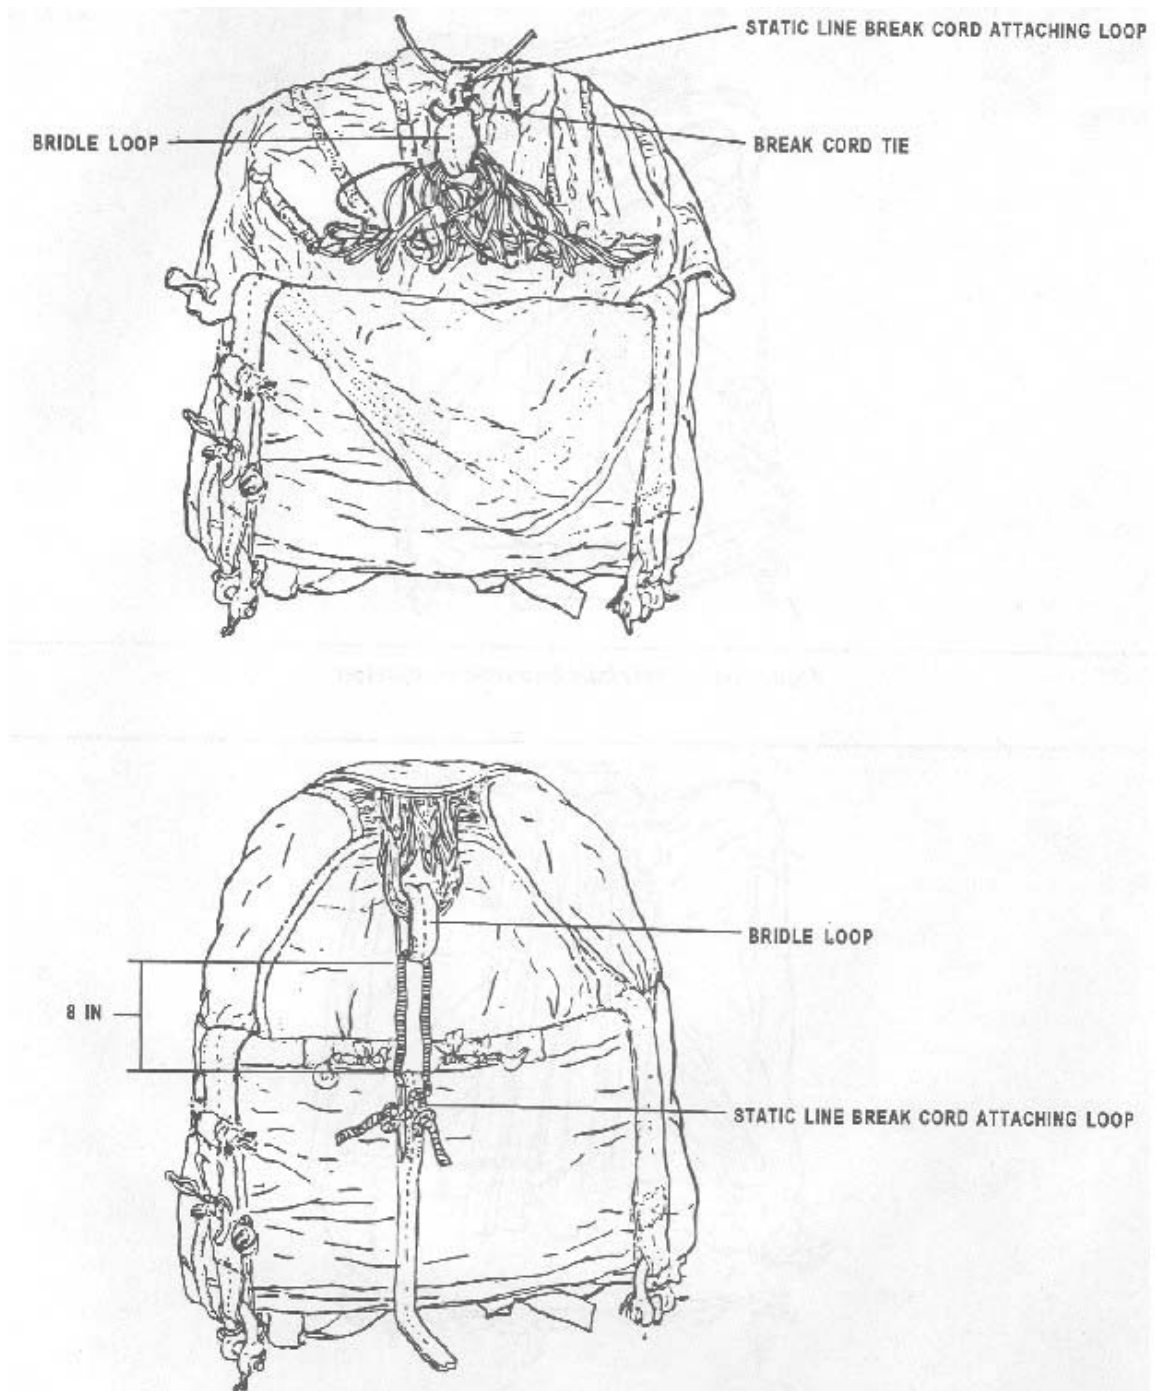

Figure 3-13
5. Attach a nonbreakaway static line and the drogue. (See Figure 3-13)
- c. Attach the static line break cord attaching loop to the canopy bridle loop by making one turn single with the cord length; forming an 8-inch loop in the cord length between the two loops. (See Figure 3-13)